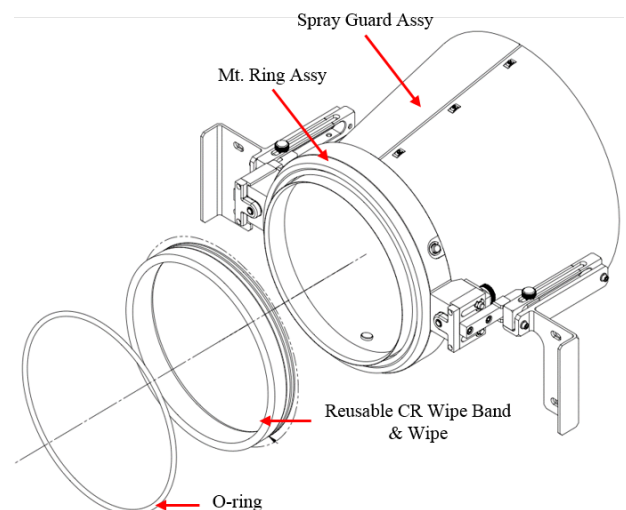

Figure 2. Assembly of HLTS spray cone
- 1) **Assemble the Mt. Ring Assy and Spray Guard Assy**, as shown in Figure 2. These should arrive on site already assembled, Class B cleaned, and ready to use. If these parts have not been pre-assembled, follow the assembly procedure video using the appropriate cone drawing (listed in Table 1) for reference.